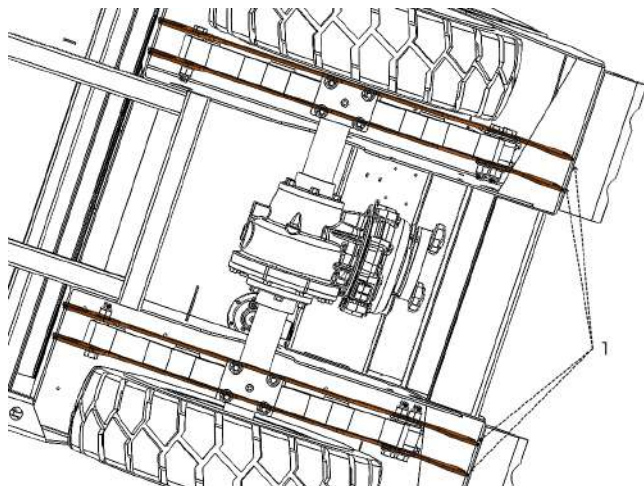

Figure 32. Suspension Mounting Tabs.
- Suspension mounting tabs (1) (see Figure 32).